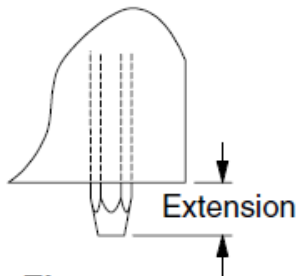

Figure 10-2
- 10.3. Measure the bottom bolt extension from the door (Figure 10-2):